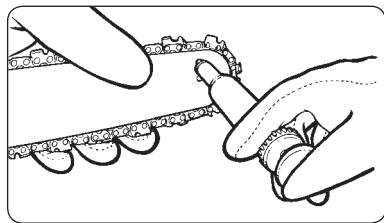

Fig. 23
3. Using the lube gun (not included in the kit): Insert needle nose into the lubrication hole and inject grease until it appears at outside edge of sprocket tip (Fig. 23).